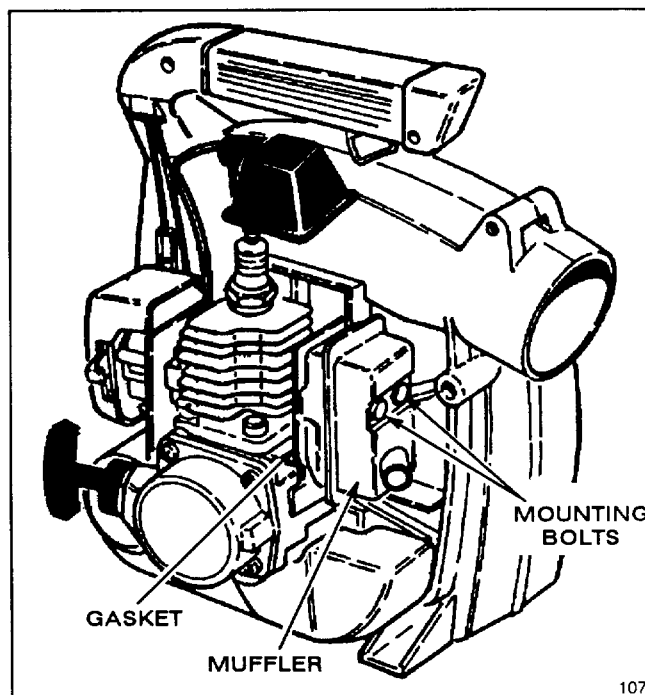

Figure 9
4. Rotate the engine crankshaft until the piston totally covers the exhaust port (Fig. 9).